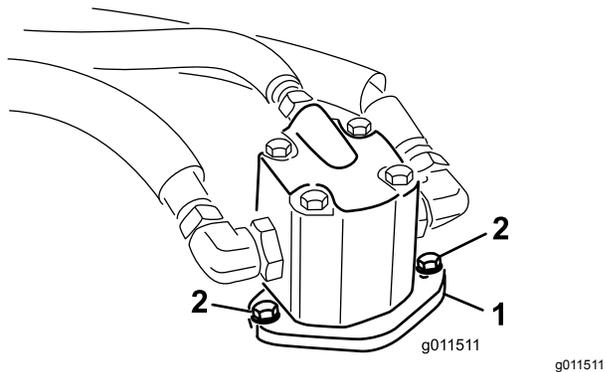

Figure 102
4. Remove the bolts securing the hydraulic motor to the mower deck (Figure 102).